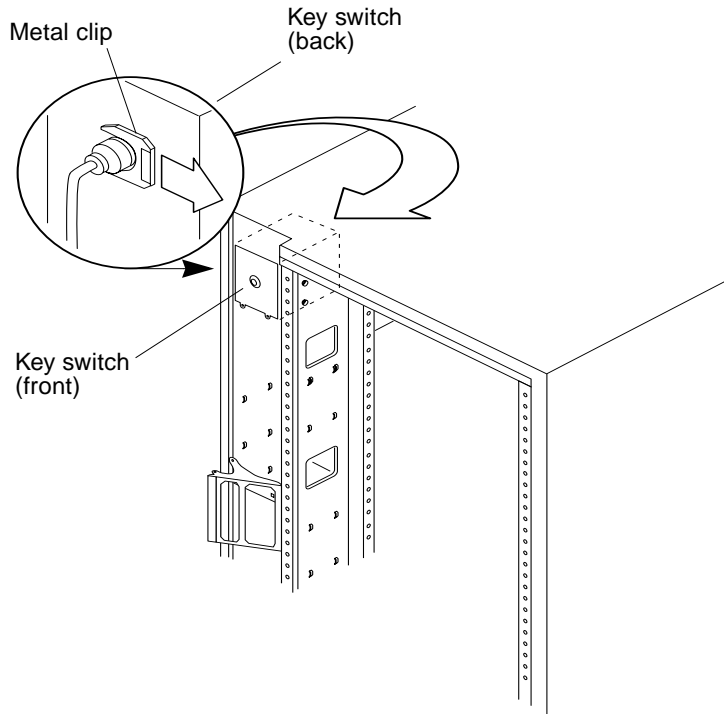

FIGURE 4-3 Removing and Replacing the Key Switch
5. **Facing the back of the key switch on the inside of the cabinet, use a pair of needlenose pliers to slide out and remove the metal clip that secures the key switch to the cabinet (FIGURE 4-3).**
2. **Facing the back of the key switch on the inside of the cabinet, slide the metal clip onto the notch of the key switch body to secure it in place (FIGURE 4-3).**